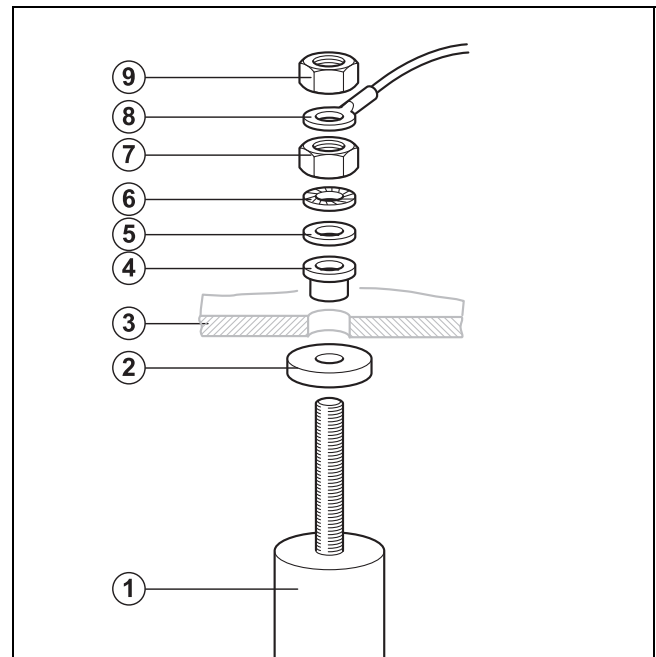

Fig. 21 Replacing the magnesium anode
- ▶ Install the new magnesium anode with the provided small parts (→ Fig. 21).